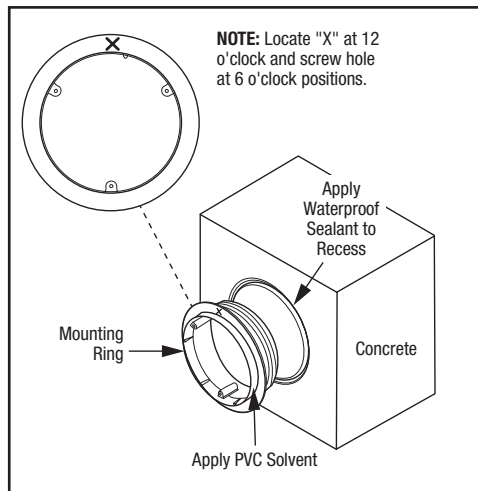

**Figure 2. Concrete Niche Installation**
2. Glue a length of 25mm electrical conduit to the niche conduit socket using PVC solvent cement. Ensure the conduit extends above the water level of the pool. See *Figure 2*.
4. Install a second conduit to return below ground level and away to the power supply. Both conduits should be glued into a draw box to allow for future service. See Figure 2.